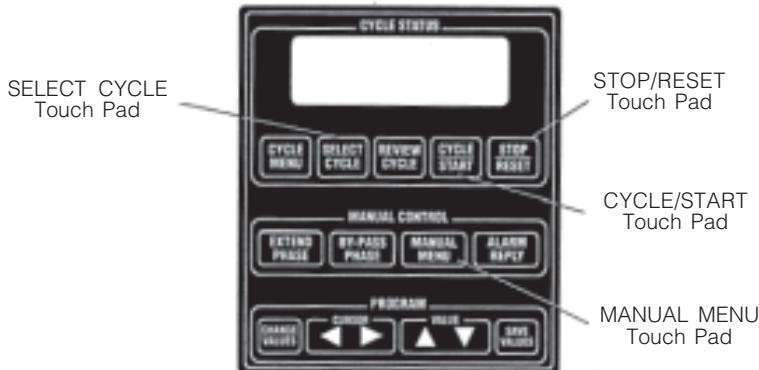

Figure 5-2. Control Panel
- a. Press **MANUAL MENU** touch pad to access the Manual Control Mode (see Figure 5-2).
- b. Press **SELECT CYCLE** touch pad to access the Manual Control Mode (see Figure 5-2).